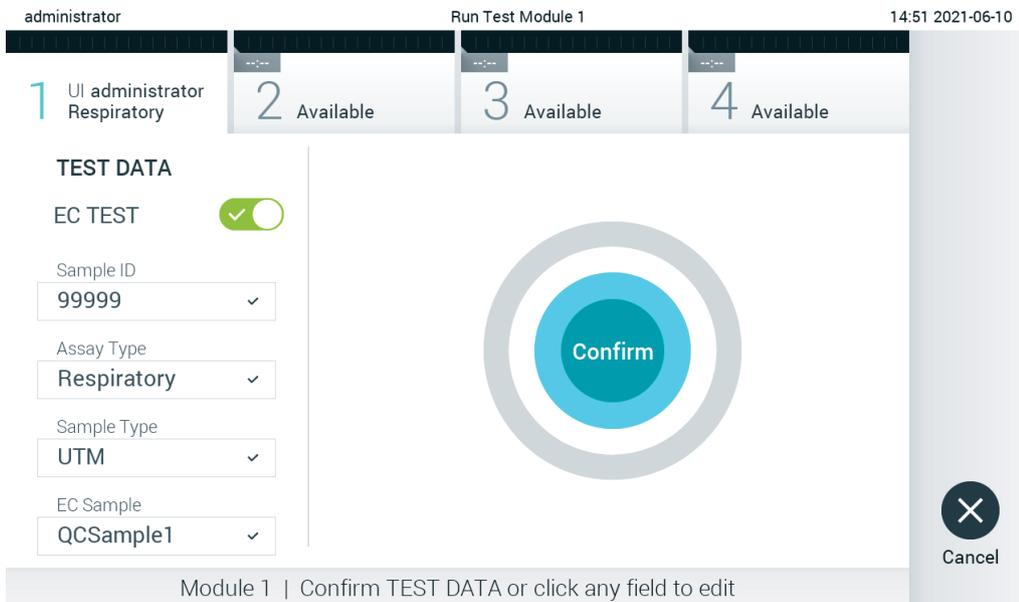

Figure 92. The Confirm screen.
- The **Confirm** screen will appear. Review the data entered and make any necessary changes by pressing the relevant fields on the touchscreen and editing the information (Figure 92).